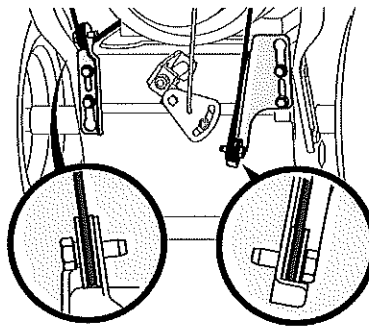

Figure 2-3
4. Observe lower rear area of equipment to be sure both cables (if equipped) are aligned and seated properly in roller guides. See Figure 2-3.